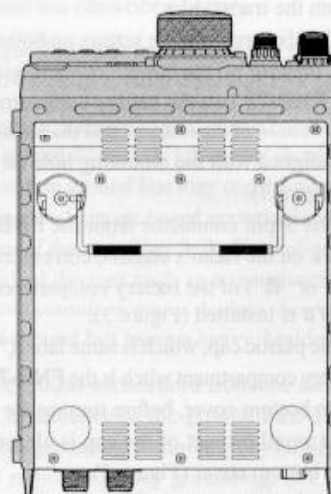

Figure 3
3. Attach the **FP-30** to the bottom of the **FT-897**, then affix it in place with the six screws removed in the above steps (Figure 3).